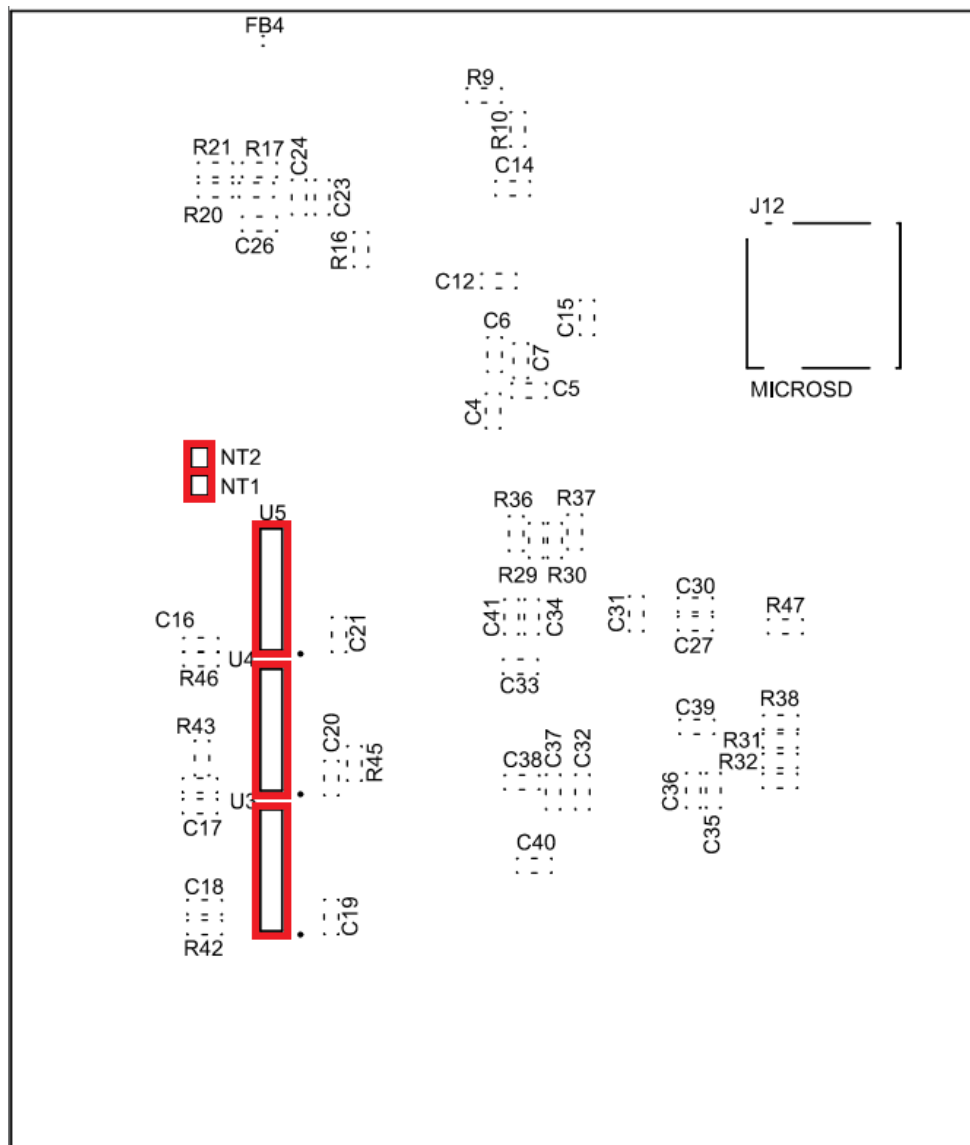

Figure 6 - Net Tie Locations
- On the bottom side of the board, cut the net ties placed within the footprints for U3, U4 and U5, see Figure 6, to isolate the C-BUS1 port